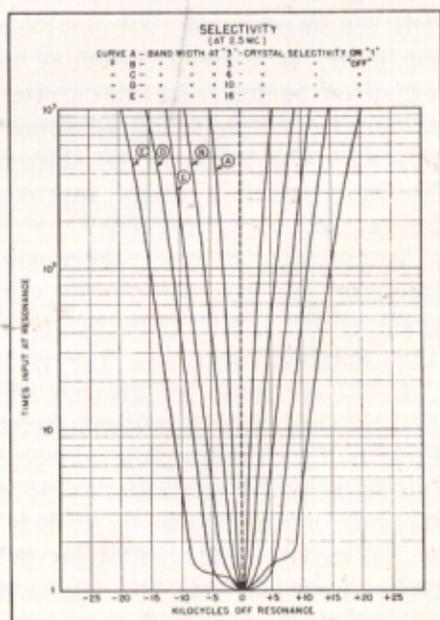

FIG. 8—Selectivity curves.
b. *Variable Selectivity:* Curves A and B, FIG. 8, show Receiver selectivity curves which indicate certain effects of the Crystal Filter. When the CRYSTAL SELECTIVITY switch is set at OFF, the quartz crystal is short-circuited and signal voltages present in the secondary of the 1st detector plate coil (L26) are impressed directly on the control grid of the first IF amplifier tube (V5). At any other setting (1 to 5), the quartz crystal is in use and acts as an extremely high "Q," high impedance, series tuned circuit interposed between the secondary of plate coil L26 and the 1st IF grid circuit (L27, C48), which constitutes the load into which the crystal